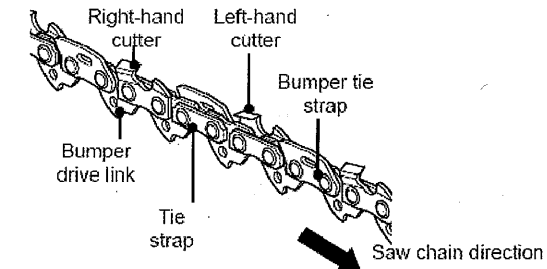

Fig. 47
2. The height difference between the tooth and the ridge is the cutting depth. When sharpening the saw chain (7) you have to consider the following points (Fig. 47).